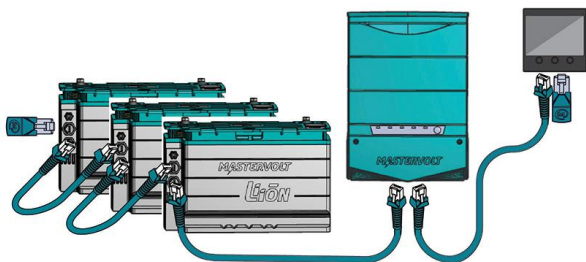

Figure 5: MasterBus cables
- MasterBus: connect two MasterBus cables (or one cable and one Terminator). See Figure 5 on page 15.